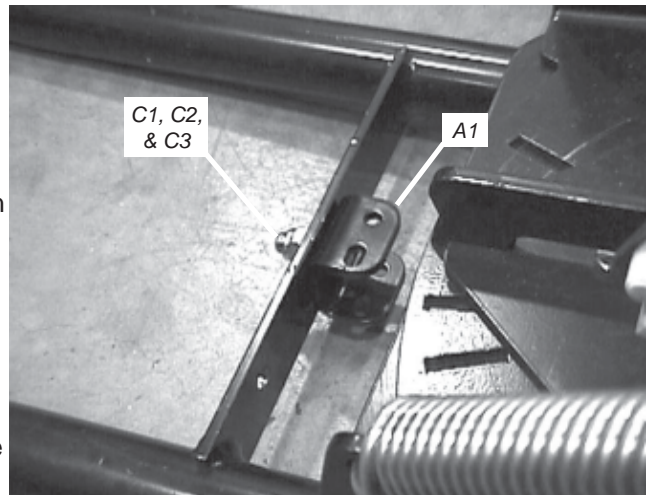

Figure 1 Installed J-bolt Bracket
1. Attach the J-bolt bracket (A1) to the center hole in the plow crossmember using a 3/8" dia x 1" long bolt (C1) as shown in figure 1. The bracket should be mounted on the blade side of the crossmember with the side flanges parallel to the ground. Terminate the bolt with a 3/8" dia flat washer (C2) and 3/8" dia nylock nut (C3). Tighten the bolt and nut to a recommended torque of 20 ft-lb (28 N-m).